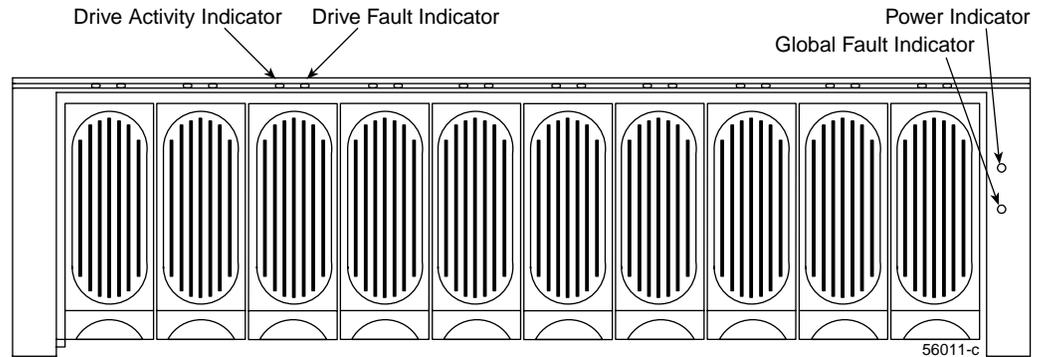
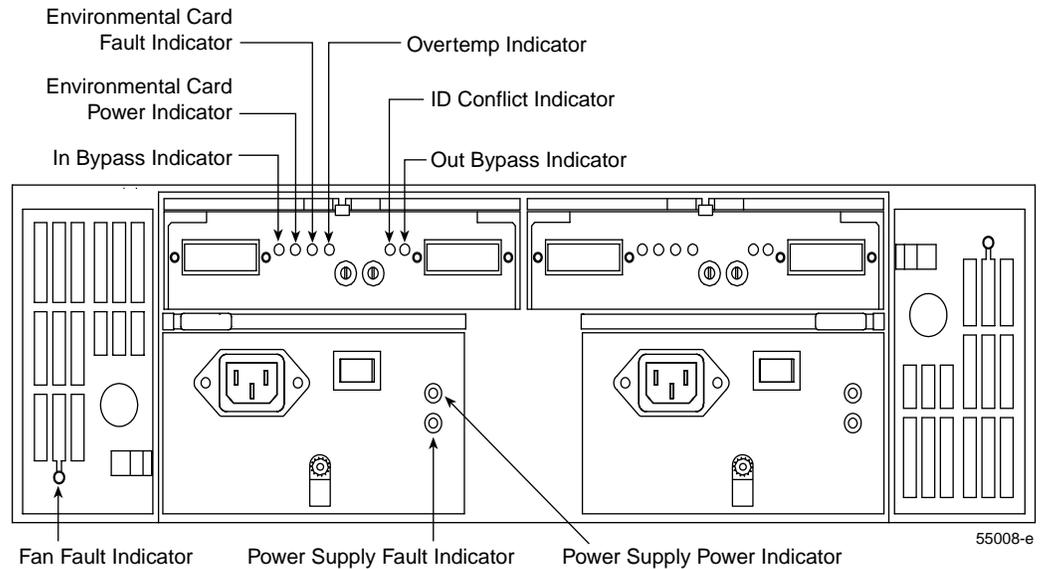

Figure 6-4 Indicator Lights (Front)
Figure 6-5 Indicator Lights (Rear)
Important: Except as described in the notes following Figure 6-4 and Figure 6-5, an amber light indicates a drive enclosure component failure. If you see an amber indicator, run the storage management software (TPSSM7) to diagnose and repair the problem.
1. Check the indicators on the front of the drive enclosure (Figure 6-4 and Table 6-1).
2. Check the indicators on the rear of the drive enclosure (Figure 6-5 and Table 6-2).
Figure 6-4 and Table 6-1 describe the front indicators.
Figure 6-5 and Table 6-2 describe the rear indicators.